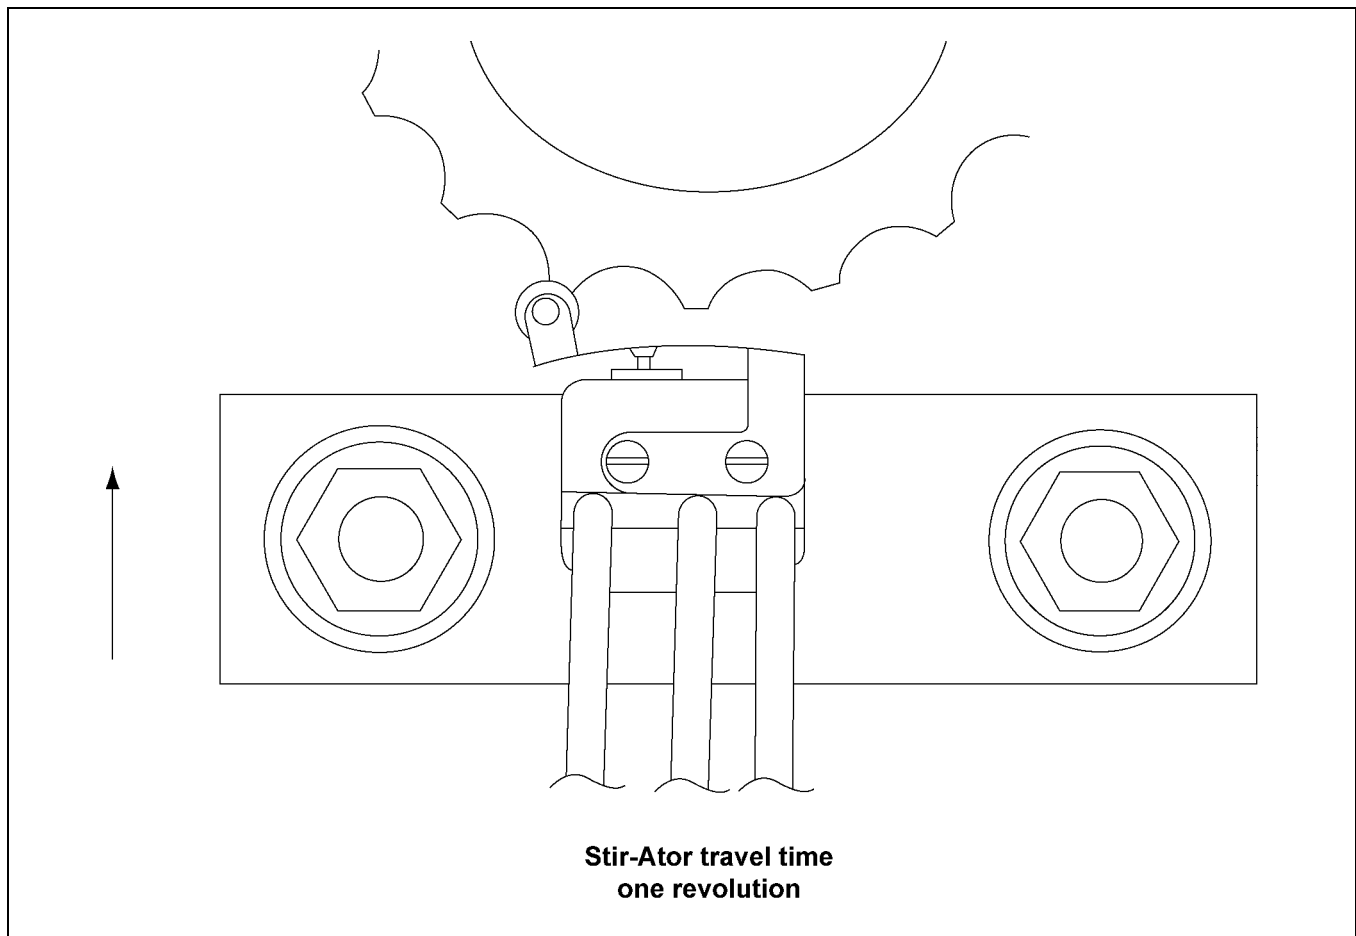

Figure 1
If adjustment of the microswitch roller actuator becomes necessary, turn OFF the power to the swivel at the switch box. Remove the right swivel box cover and loosen the nuts on the roller switch plate. Rotate the swivel block so the switch roller is riding on the peak of a swivel cog. (See Figure 1.) Slide the roller switch plate slowly in until the microswitch just clicks, then move the switch an additional 1/16" and tighten the nuts. Rotate the swivel to assure the switch clicks "ON" and "OFF" as the roller rides in and out on the swivel cog. This is necessary for a pulse to be sent to the Stir-Guard timer.
5. Place the two (2) small spacers onto the threaded studs welded in the swivel housing, next place the Stir-Guard switch and mounting plate onto the studs with the roller switch toward the cog swivel ring. Secure with whiz lock nuts. **DO NOT TIGHTEN AT THIS TIME.**
6. Adjust by putting the switch roller on the peak of a swivel cog. (See Figure 1 on Page 1.) Move the switch plate slowly inward until the roller switch clicks. After the click, move an additional 1/16", then tighten. Rotate the swivel, be sure the roller switch rides in and out freely and the switch clicks ON and OFF, as it passes over each cog. This is necessary for a pulse to be sent to the Stir-Guard timer. Without a pulse every 45 minute, the Stir-Guard will shut down the Stir-Ator operation.